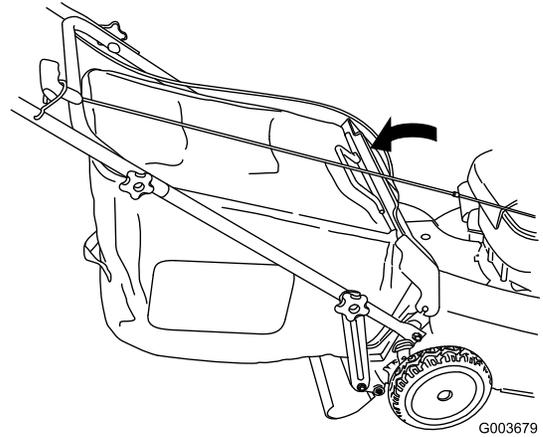

Figure 38
5. Lower the rear door (Figure 38).